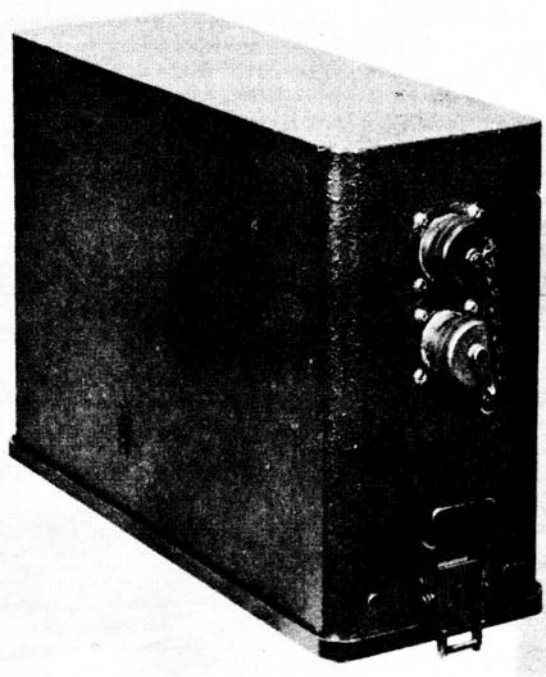

Figure 1-7. Power Supply PP-3700/PRC-41,
(2) POWER SUPPLY PP-3700/PRC-41. - Refer to figure 1-7. The circuitry of Power Supply PP-3700/PRC-41 is contained in an aluminum case having the same dimensional configuration as Storage Battery BB-451/U. Power Supply PP-3700/PRC-41 is used to provide the 26.5-volt d-c primary power for Radio Receiver-Transmitter RT-695/PRC-41 where either 115- or 230- volt, 50- to 400-cps power is available. Refer to paragraph 2-5b(1). This component may be clamped directly to the rear of Radio Receiver-Transmitter RT-695/PRC-41 or its primary power may be made available by use of Power Electric Cable Assembly CX-8686/PRC-41 connected between the d-c connector on the side of the PP-3700/PRC-41 and the rear of Mounting MT-2976/PRC-41. When operating the RT-695/PRC-41 on the test bench with Receiver-Transmitter Case CY-3884/PRC-41 removed, primary power may be made available to the RT-695/PRC-41 by use of the d-c maintenance adapter. Power Supply PP-3700/PRC-41 may also be mounted on Mounting MT-2977/PRC-41.